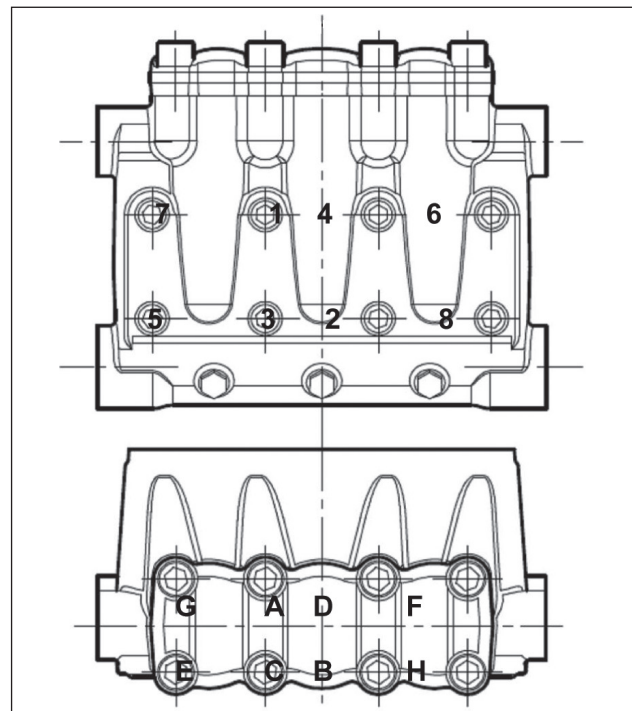

Fig. 34
- ** The head fixing screws exploded view pos. 47 must be tightened with a torque wrench respecting the order shown in the diagram in (Fig. 34).
- *** The valve cover fixing screws exploded view pos. 45 must be tightened with a torque wrench respecting the order shown in the diagram in (Fig. 34).